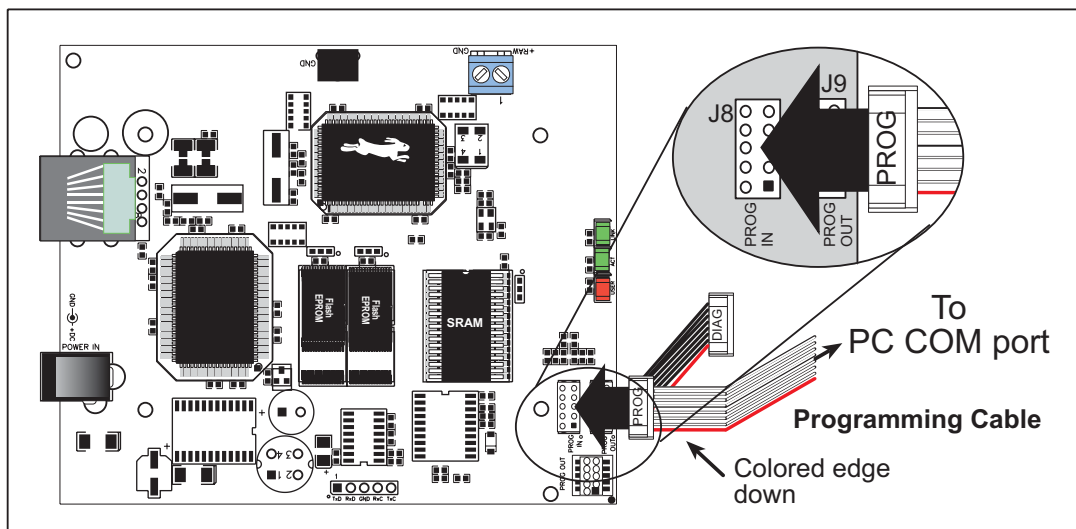

Figure 8. RabbitLink Connections for Downloading Firmware
1. Connect the RabbitLink board to your PC as shown in Figure 8 with the PROG connector on the programming cable connected to the PROG IN header of the RabbitLink board.